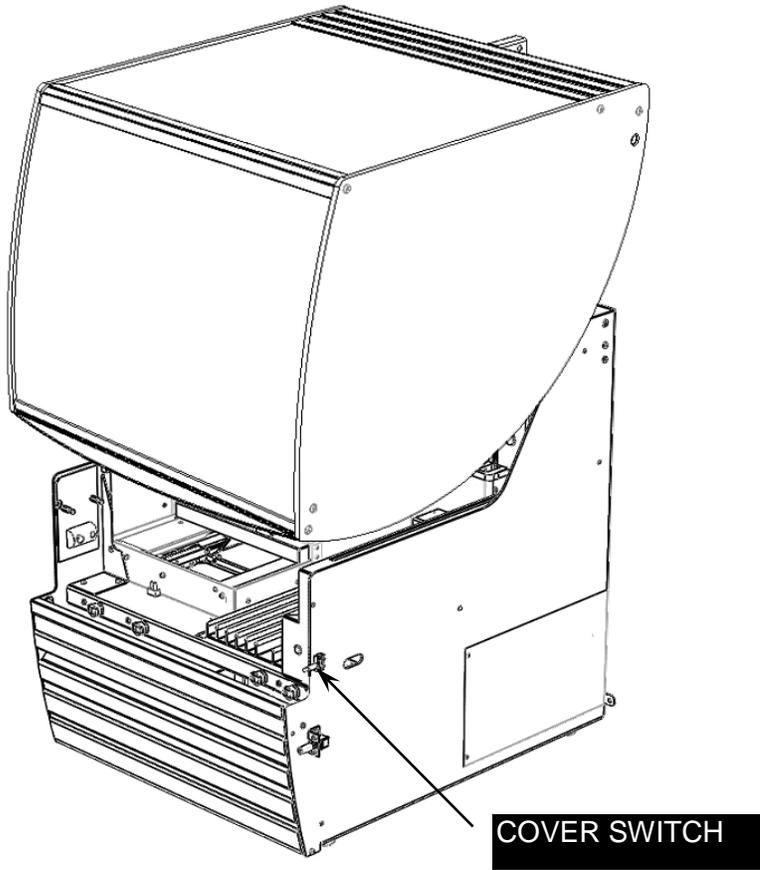

Figure 6-7: Placing the Cover on Chassis
2. Position the Cover onto the Chassis as shown in Figure 6-7.